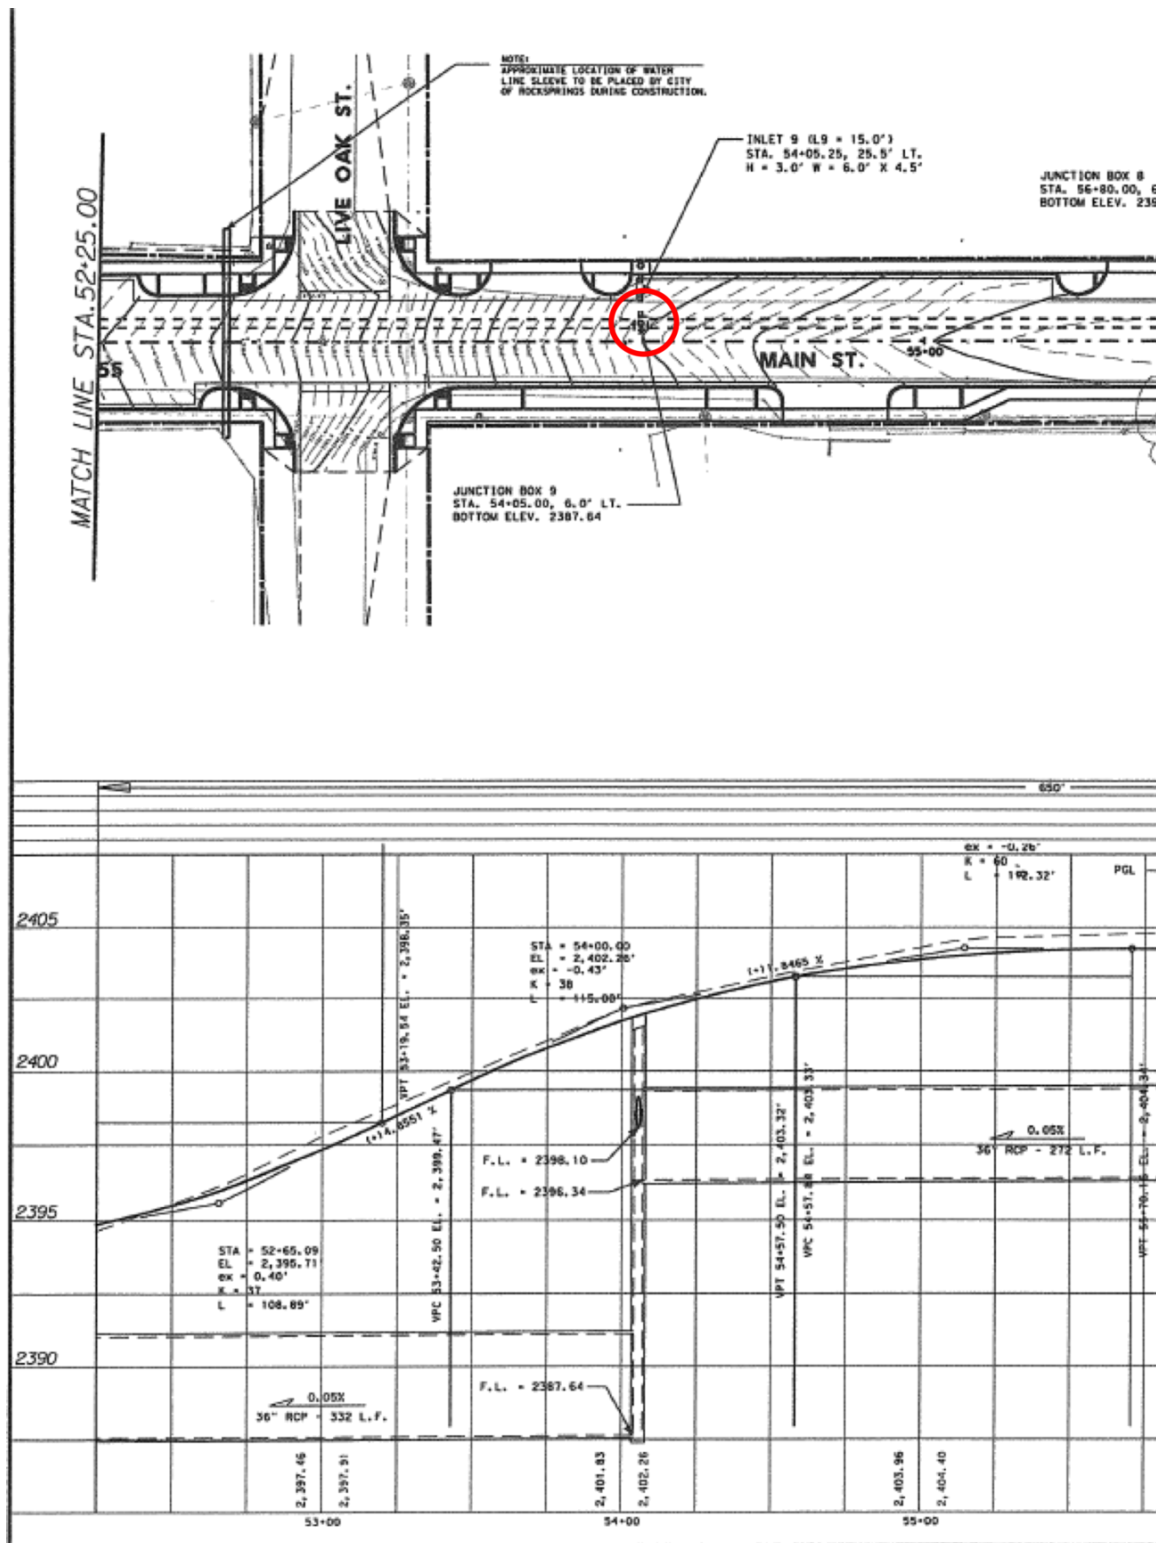

Figure 1: Plan and profile of a storm sewer system
1. The upper panel of the drawing in Figure 1 is the:
2. The design flow in Figure 1 from:
3. The red circle on Figure 1 locates a junction box. The **bottom** elevation of the **junction box** indicated on the drawing is:
4. The lower part of the drawing in Figure 1 shows conduits connecting to the junction box. The number (how many) of conduits depicted are:
5. The conduit that connects to the junction box from the left side of the drawing in Figure 1 has a diameter of:
6. The slope (in percent) of the storm sewer conduit that connects to the junction box from the left side of the drawing in Figure 1 is:
7. The land surface elevation at the junction box on Figure 1 is:
8. Relative to the junction box, the flow-line (invert) elevation of the left-most sewer pipe on Figure 1 is:
9. Relative to the junction box, the flow-line (invert) elevation of the right-most sewer pipe on Figure 1 is:
10. Relative to the junction box, the soffit (crown) elevation of the left-most sewer pipe on Figure 1 is:
11. Relative to the junction box, the soffit (crown) elevation of the right-most sewer pipe on Figure 1 is: